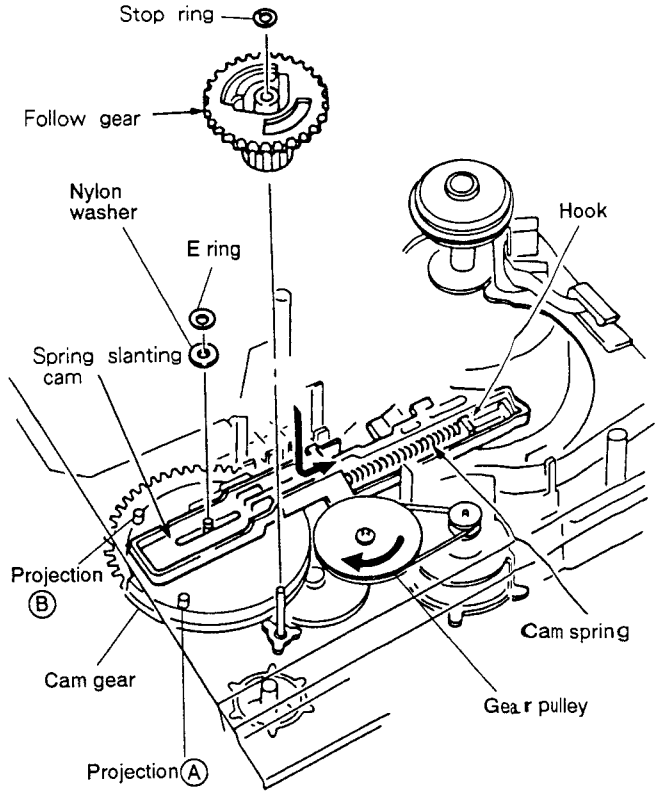

Fig. 13
③ Install a nylon washer and an E ring, and hang the cam spring on the hook. (Fig. 13)
Note: The cam gear and spring slanting cam as shown in Fig. 13 are positioned when installing the slide cam.
- ③ Install the stop ring. (Fig.13)
- ① Set the position of projection (A) and (B) of the cam gear by turning the gear pulley clockwise by hand as shown in Fig.13.